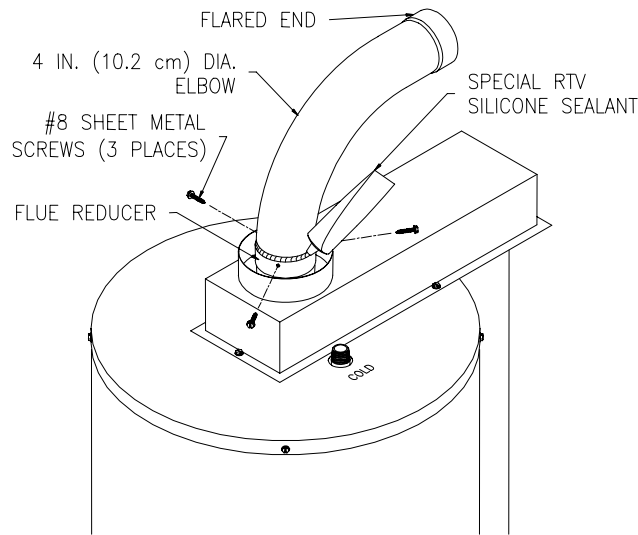

Figure 9.
5. Insert the straight end of the four (4) inch (10.2 cm) diameter elbow into the flue reducer until firmly seated and oriented in the correct direction. With a 1/8 inch (3.2 mm) diameter drill bit (not supplied), drill three (3) holes, 120° apart, through the flue reducer into the four (4) inch (10.2 cm) diameter elbow. Fasten with three (3) #8 sheet metal screws (supplied). Using the supplied special RTV silicone sealant, apply a sufficient amount to seal the joint (See Figure 9).